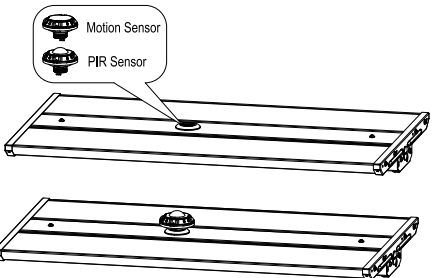

Figure 16
- Step2. Twist-lock the DC sensor to the base to make it work properly, use a remote control to adjust the working mode as per demand.(Figure 16)